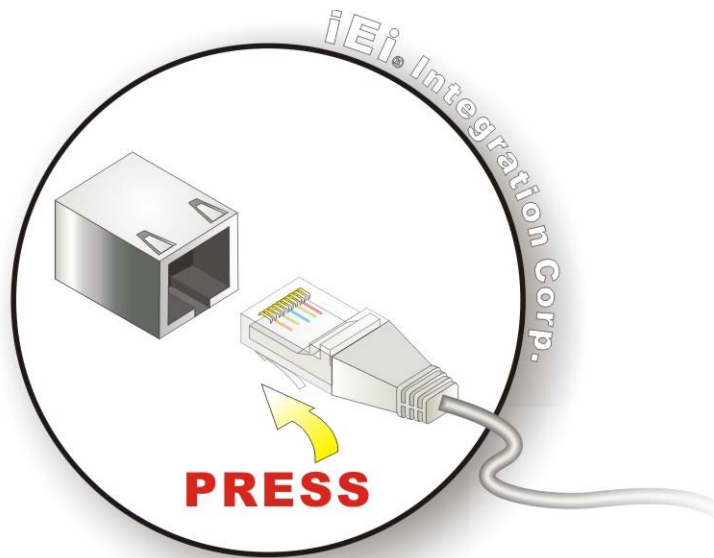

Figure 4-14: LAN Connection
Step 2: Align the connectors. Align the RJ-45 connector on the LAN cable with one of the RJ-45 connectors on the IMB-Q670. See **Figure 4-14**.